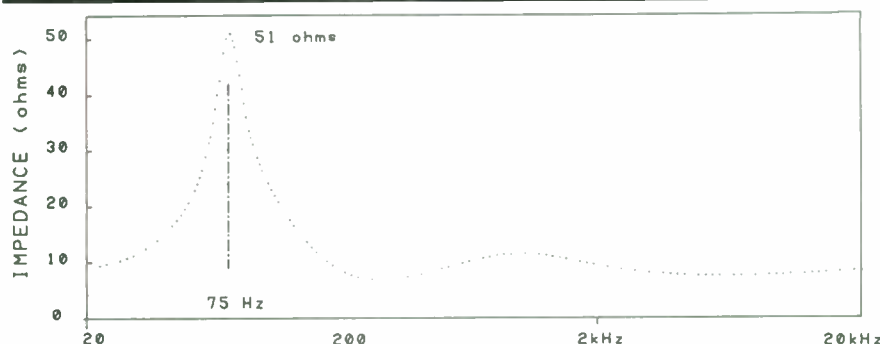

FIGURE 9: Satellite impedance curve.
*Figure 9* shows the satellite input impedance curve. System resonance is at 75Hz where the impedance rises to 51 $\Omega$ ; system Q is 0.5. The minimum impedance of 7 $\Omega$  is reached at 250Hz and rises slowly thereafter to 10.5 $\Omega$  at 1.2kHz, where it then begins to fall again as the tweeter cuts in.